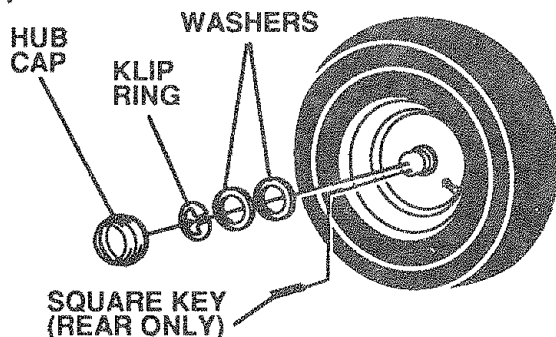

FIGURE 45
- Removing wheel for tire repair (Fig. 45).